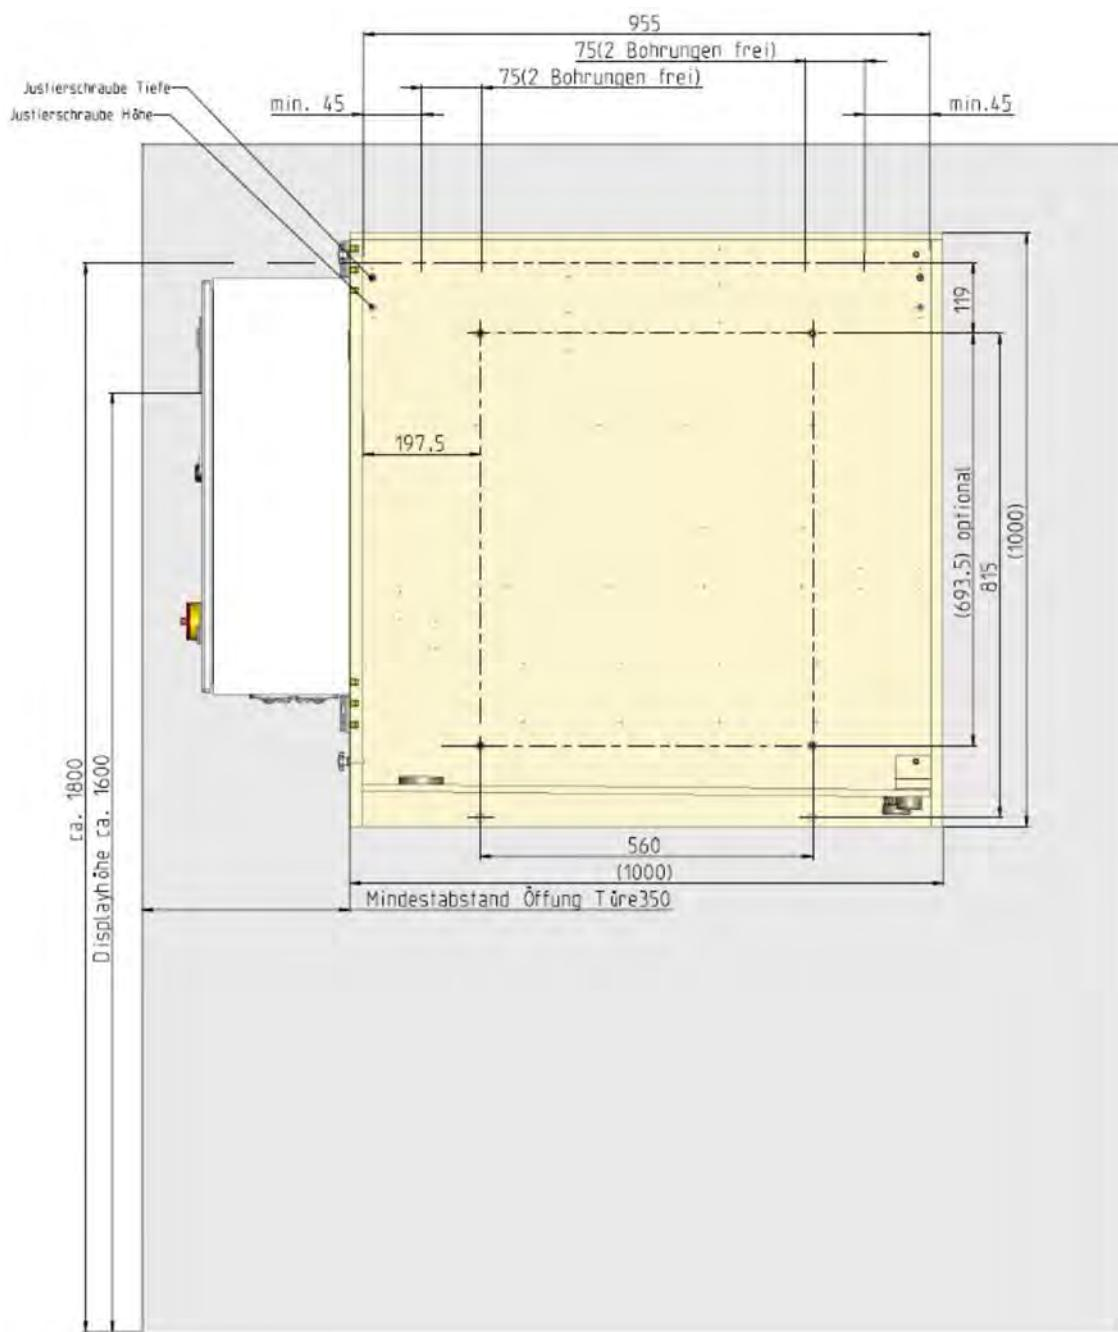

Fig. 7: Assembly diagram
- 2.** Mark the drill holes on the wall according to diagram  *Chapter 5.3.1 'Assembly diagram' on page 33, Fig. 7.*